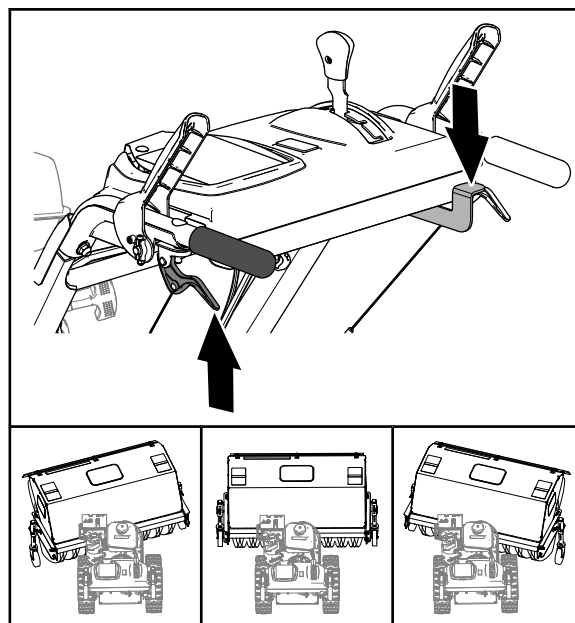

Figure 20
3. Push the lever down with the thumb of your right hand (Figure 20).
4. Squeeze the left wheel-clutch lever to the handle (Figure 20) and push the broom housing to following positions.